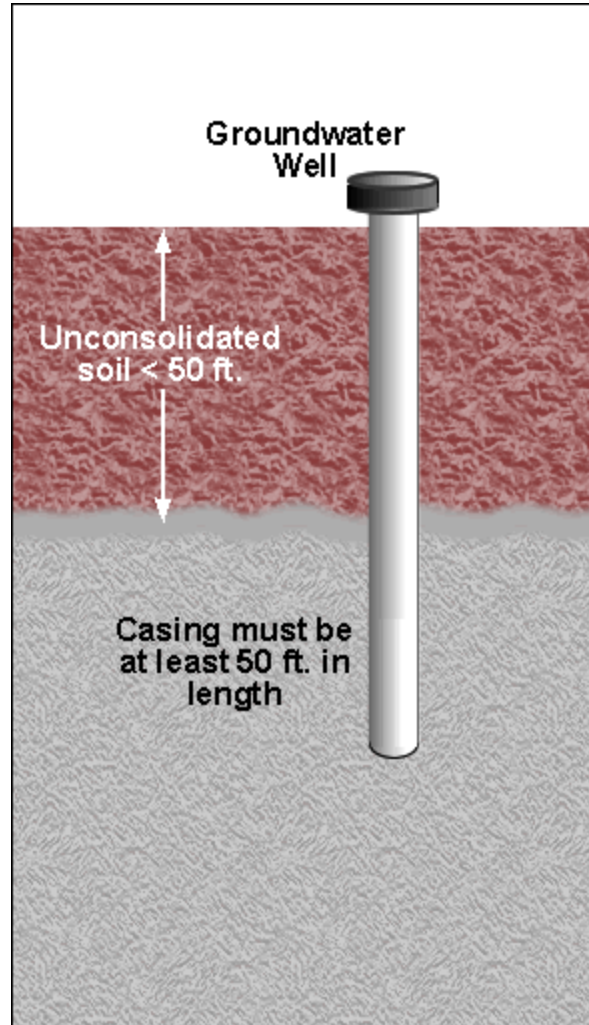

Figure 2.10b
- ☑ Where depth of unconsolidated material is less than 50 feet, a minimum of 50 feet of casing is required (Figure 2.10b).